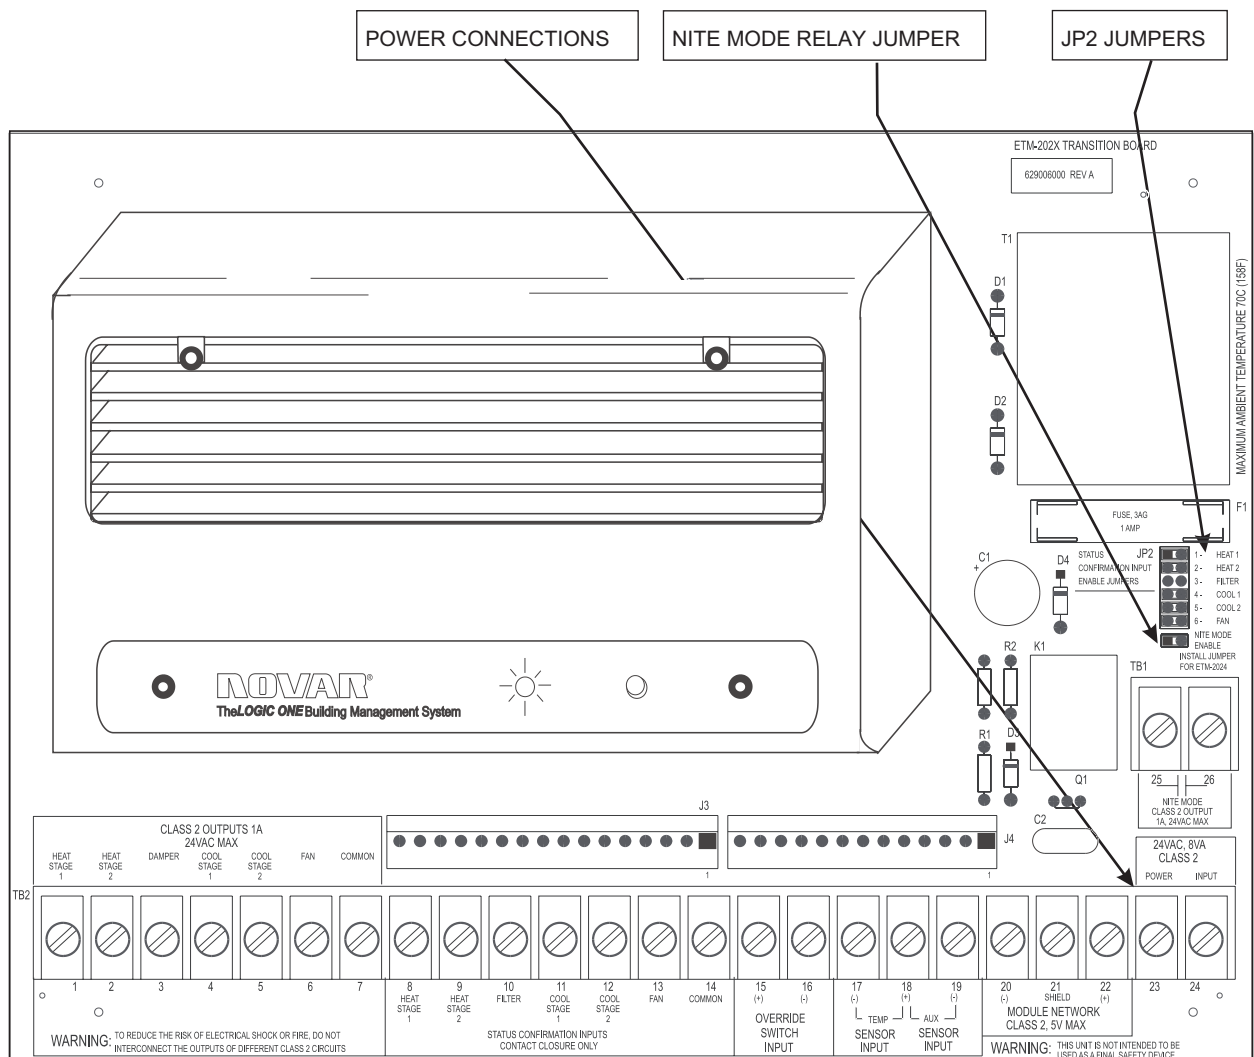

Figure 1. ETM-2020/ETM-2024 board
Refer to Figure 1, as necessary, when wiring the ETM-2020 and ETM-2024.
- If the ETM base is shipped with Status Confirmation Input Enable Jumpers at JP2 (see Figure 1):
Connect the Nite Mode Terminals 25–26 (see Figure 1) to the circuitry of the HVAC unit so that it bypasses the minimum position switch and causes the damper to close during unoccupied times.